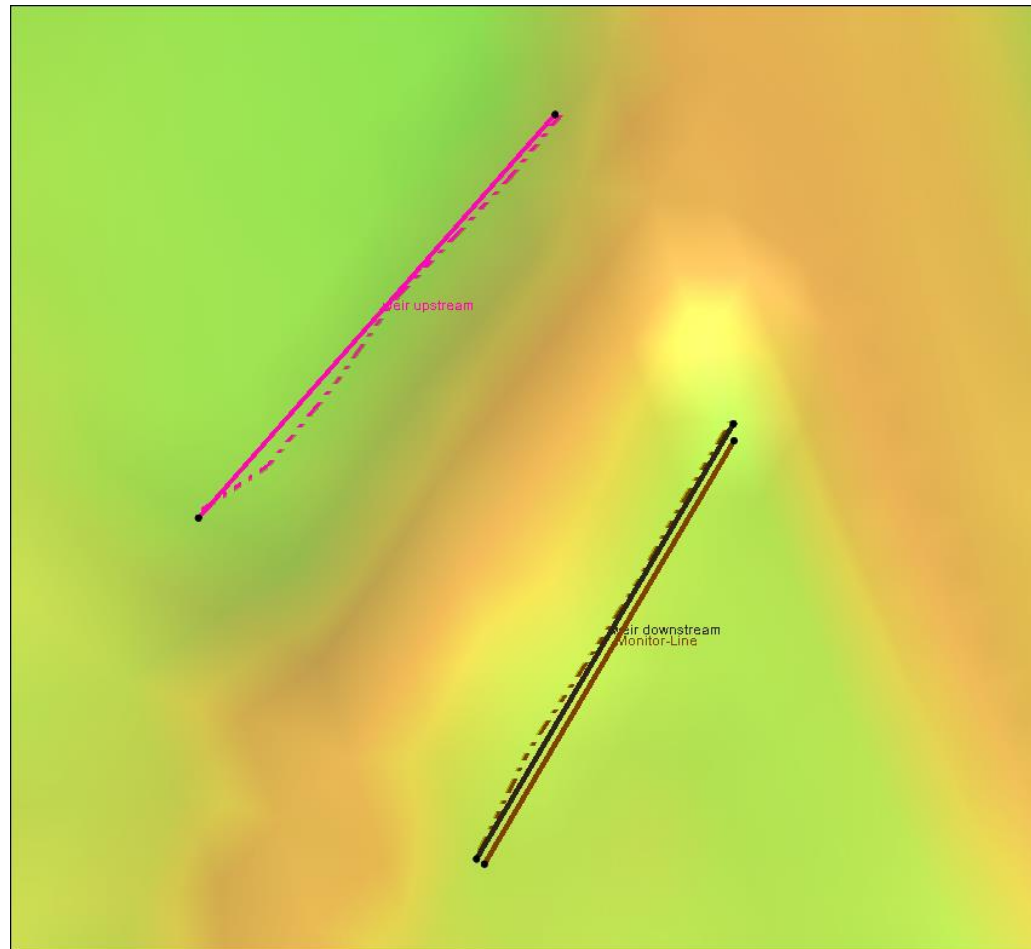

Figure 6 Monitor line offset from the downstream weir arc
2. Using the **Create Feature Arc**  tool, create a monitor line barely offset from the downstream weir face arc. Be sure to zoom in so that the arc does not snap to the same location as the weir arc (see Figure 6).
The dotted lines displayed in the Figure 6 and on the computer screen represent the “Snap Preview” for the boundary condition arcs. The snap preview displays where the boundary condition arcs will be applied to the mesh. In the case of the downstream weir arc and monitor line arc, the snap preview lines for both arcs overlap the same element edges.